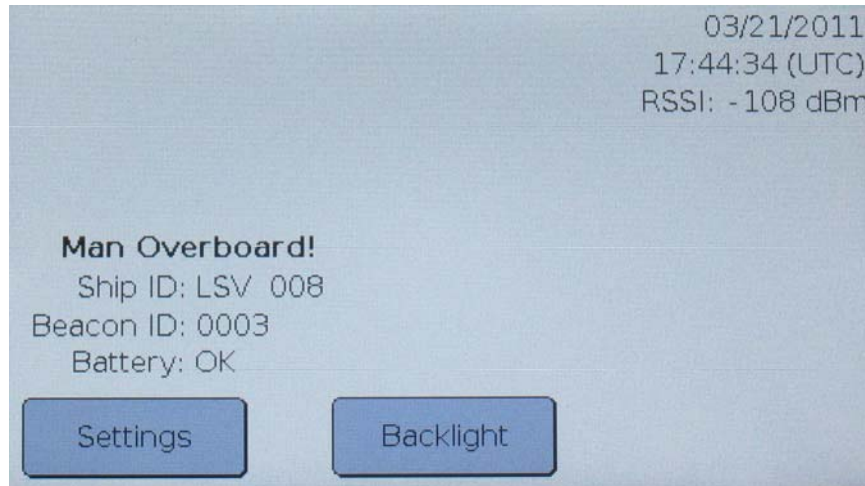

Figure 3
**Non-Own Ship Beacon:** When a beacon that is programmed to another ship is activated and within range, the buzzer will chirp and the beacon information (Ship ID, Beacon ID, and battery condition) will appear in the lower left hand corner of the LCD. See figure 3.